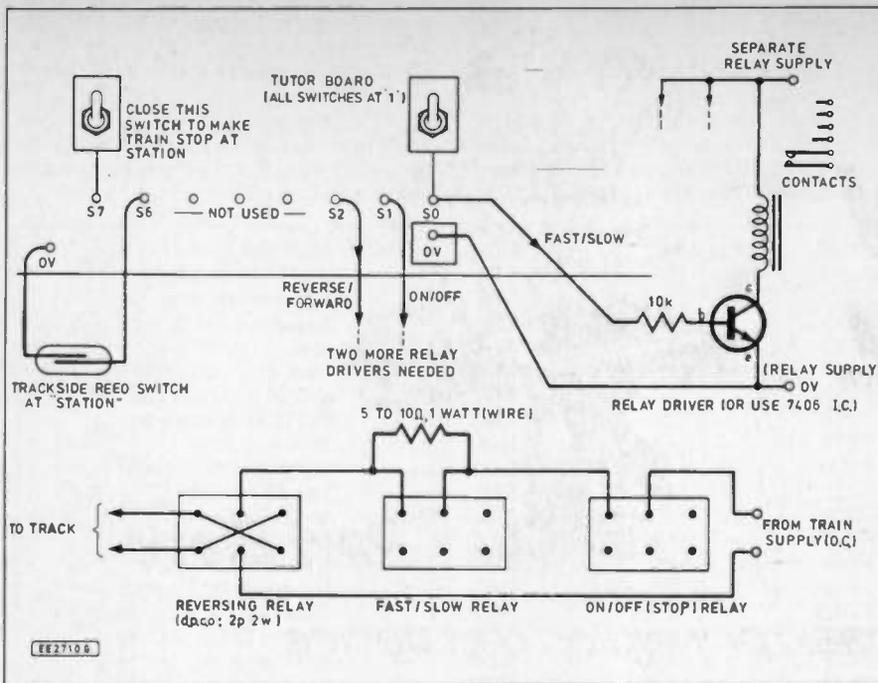

Fig. 11.1. Control of model train. Example in ROM:
**I** You may now like to study, or even try out, if you rig up the necessary hardware, some of the control examples in ROM. There's one, you may have noticed, for a model train control, if you add the sensors (reed switches) and use the outputs to control relays for stop/go, forward/reverse, and slow/fast. You'll find it uses pins 6 and 7 as inputs, and 0, 1 and 2 as outputs. The others are unused. (Fig. 11.1)